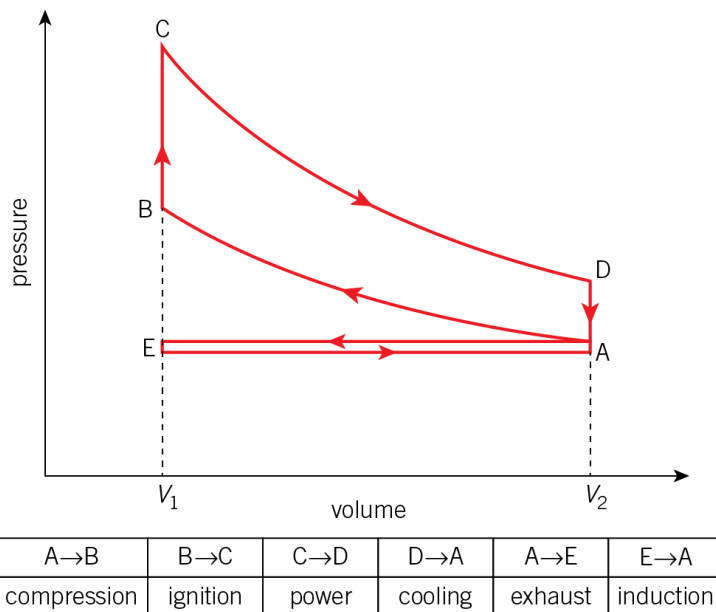

Figure 3 The indicator diagram for the Otto cycle
- The indicator loop area in practice does not have sharp corners as the theoretical indicator diagram in Figure 3 has. Therefore, less work is done than if it had sharp corners (which are due to the valves not opening and closing instantly).
an increase of temperature in the cylinder when ignition occurs in proportion to the heat transferred. Hence, with reference to the indicator diagram in Figure 3 (where  $T_A, T_B, T_C, T_D$  = temperatures at A, B, C, D).
The heat sink is the engine casing which transfers heat from the cylinders to the surroundings. This heat transfer  $Q_C$  occurs during cooling after the power stroke and before the exhaust stroke. The heat transfer  $Q_C$  causes a decrease of temperature in the cylinder in proportion to the heat transferred. Hence, with reference to the indicator diagram in Figure 3: